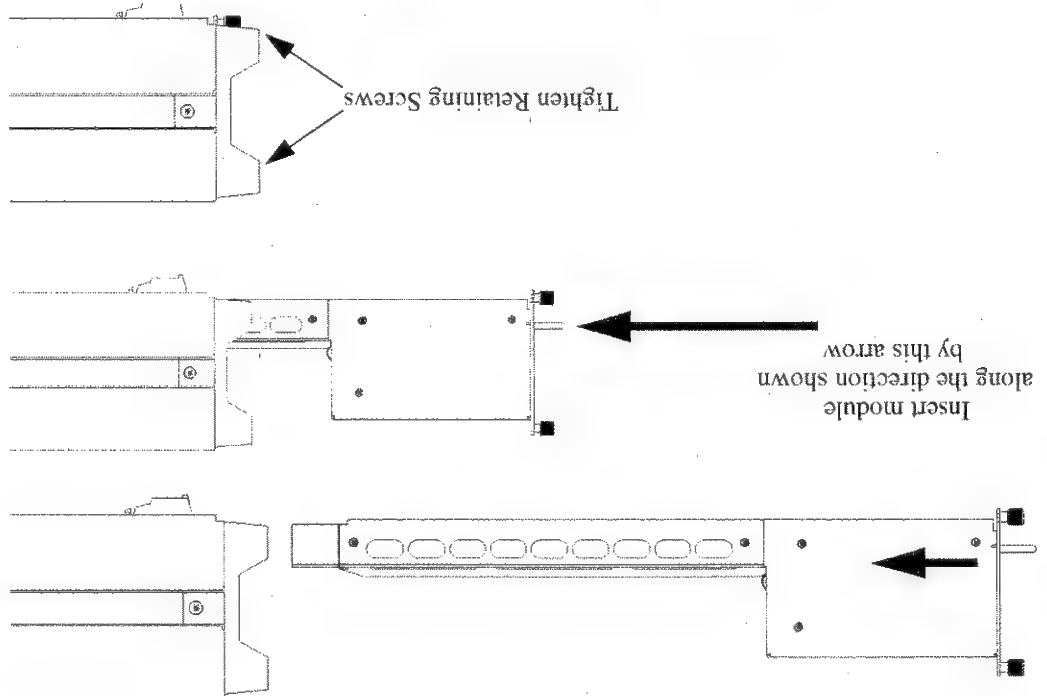

Figure 160 Fitting a Back-Loadable Module
- 1 Position the module at the rear of the instrument as shown in Figure 160.
If you insert the module at an angle or vertically, you may damage the instrument and the module. You should insert the module along the direction shown by the arrow in Figure 160.